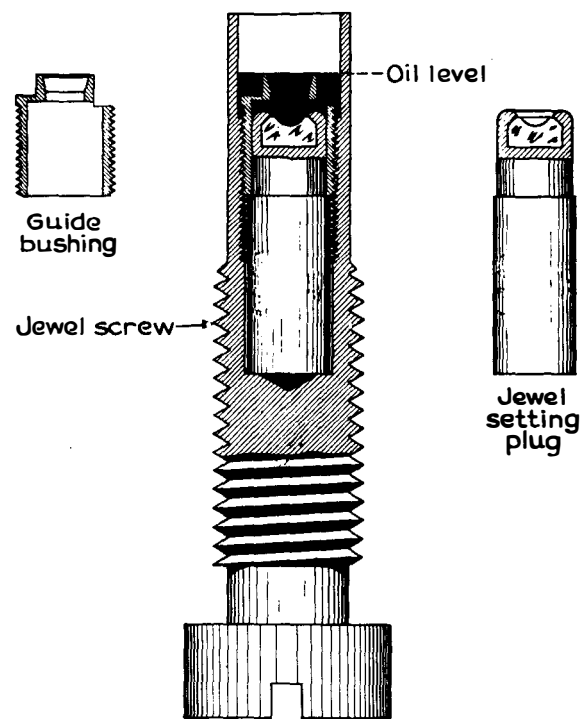

Fig. 1. Oiltight jewel screw
The oiltight jewel-pivot bearing, Fig. 1, consists of a jewel assembled within an adjustable bushing at the bottom of the meter frame, and a pivot which is screwed into the lower end of the disk shaft.
Watthour Meter Jewel Oil be added, if required, to raise it to the level indicated in Fig. 1. It is not always necessary to disassemble the jewel screw for a second oiling, as there is little chance for the oil in the reservoir to be lost.
The following directions for initial oiling of the Oil-tight Jewel Screw are given with reference to Fig. 1:
- Inspect the oil level, which should be as shown in Fig. 1. Because of minor variations in mechanical dimensions of the reservoir or variation in size of the drops obtained from the wire loop, three drops of oil cannot always be taken as the correct amount. If more is needed to fill to the right level, it should be added.